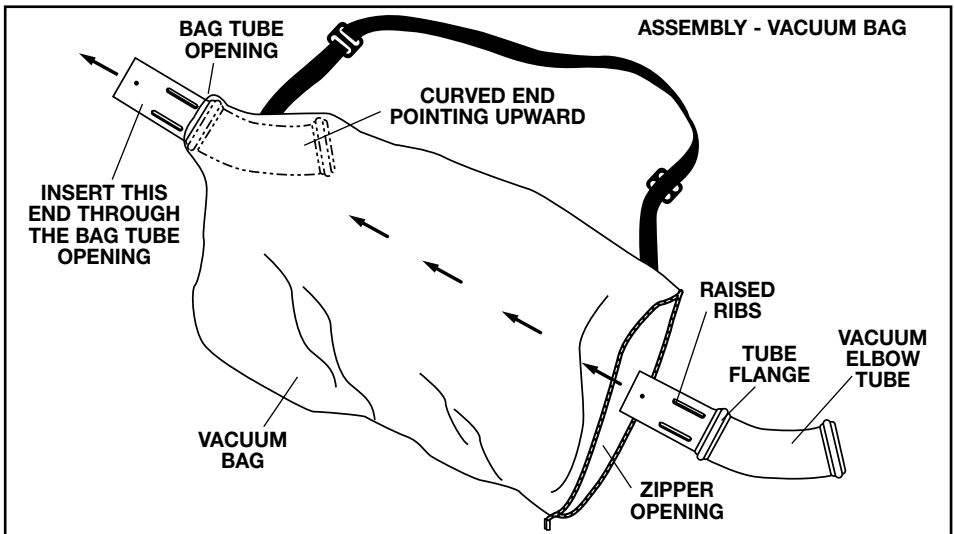

Fig. 10
**NOTE:** For electric vacuum kits, the shorter end of the vacuum bag elbow tube with the raised ribs should be inserted through the zipper opening (Fig. 10).
- Insert the vacuum elbow tube through the zipper opening in the vacuum bag (Fig. 10), then through the bag opening in the other end of the bag, until the bag tube opening is seated against the tube flange.
- a. Remove the vacuum bag elbow tube. (Reverse the procedure shown in Fig. 10.)
- f. Reinstall vacuum bag elbow tube (Fig. 10).